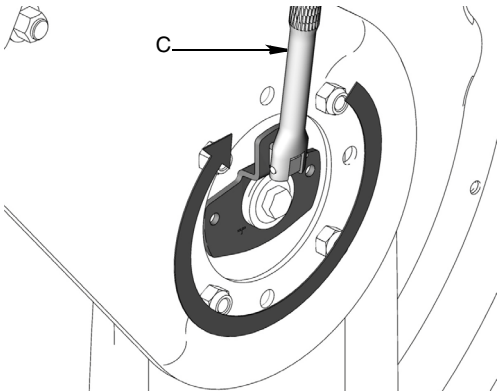

FIG. 21
4. Tighten spring by turning ratchet (C) clockwise. Refer to Table 1 to determine the number of full turns recommended for setting the spring tension for your hose reel model (FIG. 21).